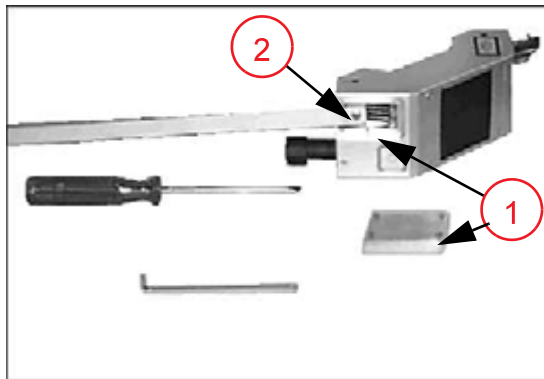

Fig. 1: I.I. tension band
- Remove the cover (1/Fig. 1 / p. 5) over the tension band.
- Remove the screw (2/Fig. 1 / p. 5).
- Secure the tension band using the screw (2/Fig. 1 / p. 5); secure screw with Loctite.
- Replace the cover (1/Fig. 1 / p. 5).